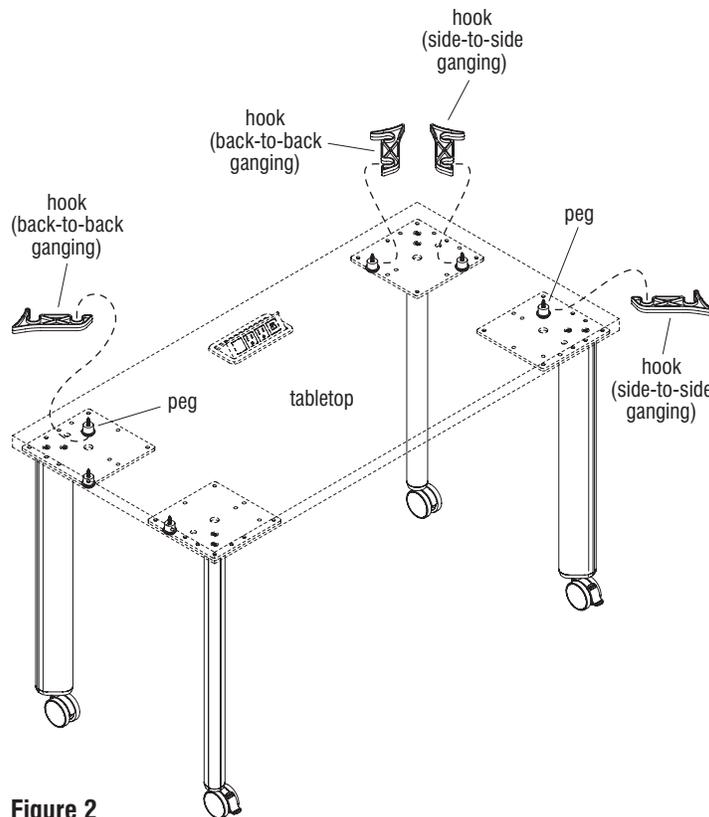

Figure 2
2. Carefully turn the table to the upright position (Figure 2).